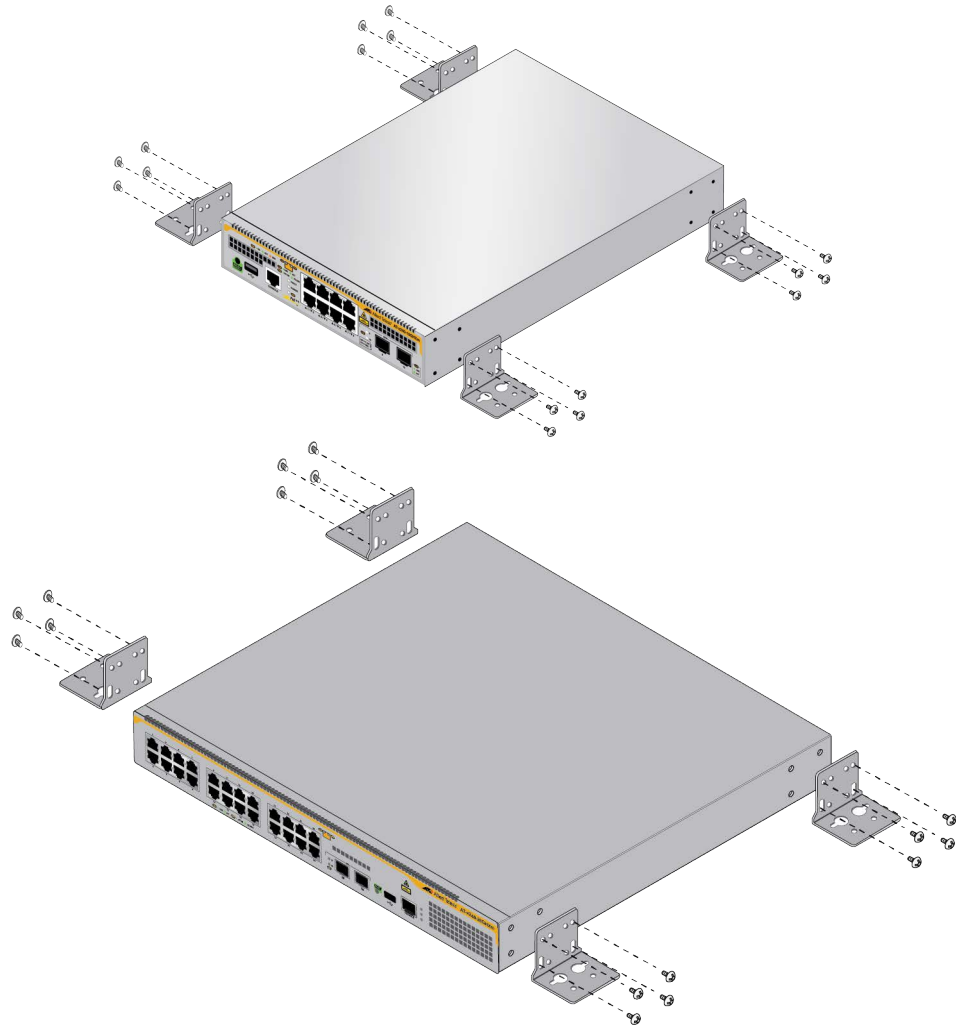

Figure 48. Attaching the Wall Brackets to the Switch
2. Install the four BRKT-J24 wall brackets, two on each side of the of the unit, with the 16 M4x6mm screws included in the bracket kit. Refer to Figure 48 on page 79.